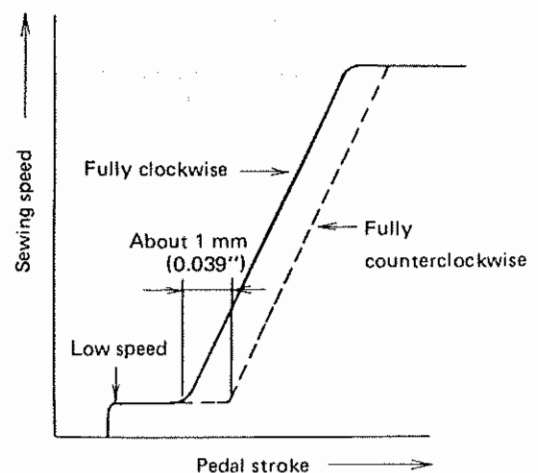
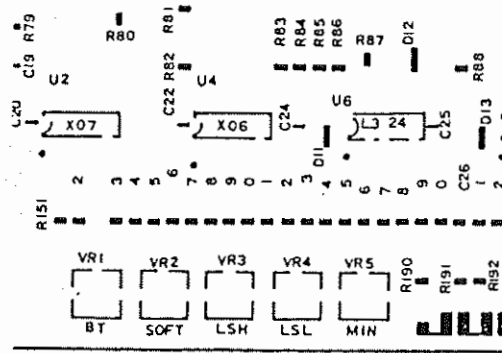

Fig. 3-7
Fig. 3-8
- As shown in Fig. 3-7, the accelerating point can be adjusted about 1 mm (0.039"). When VR5 (MIN) shown in Fig. 3-8 is turned fully clockwise, the low speed stroke shown by the solid line (Fig. 3-7) is shortened, resulting in an earlier accelerating timing. When VR5 is turned counterclockwise, the low speed stroke is lengthened as shown by the broken line, resulting in a later accelerating timing. (Normally, VR5 is turned fully clockwise before shipment.)
In the conventional low sewing speed is determined by the thread trimming speed. As shown in Fig. 3-8, only the low speed controlled by depressing the front part of the pedal can be increased using VR3 (LSH) shown in Fig. 3-8 without changing the thread trimming speed. Turn VR3 clockwise to increase the sewing speed, or turn it counterclockwise to decrease the speed. The adjustable range is from the thread trimming speed to the thread trimming speed plus about 200spm. (Normally, it is turned fully counterclockwise before shipment.)